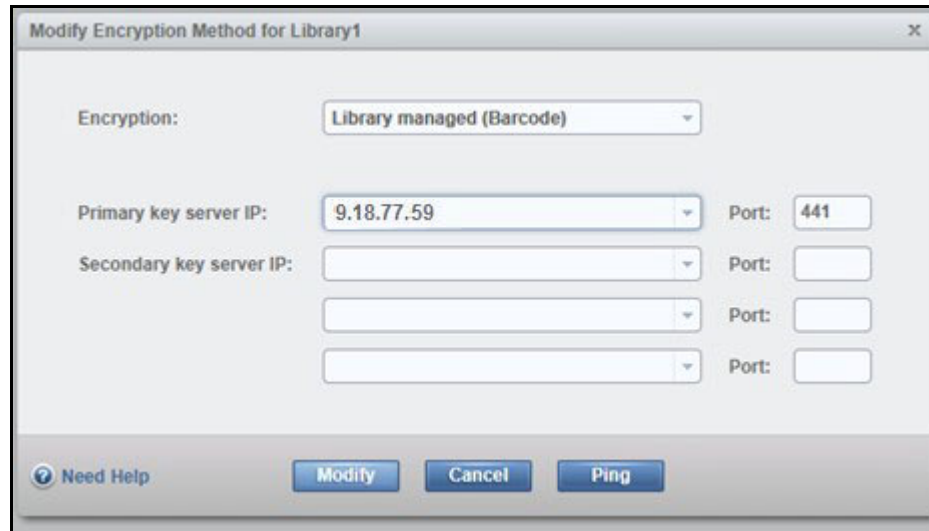

Figure 3-5 Modify Encryption Method for Library window
- In the Modify Encryption Method menu, select **Library Managed (Barcode)** and at least one key server to use with this logical library. Click **Modify** to save the settings, as shown in Figure 3-5.